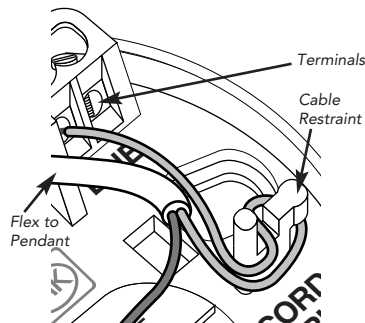

Figure 4 Cable Restraints
18. Wrap the two cables around the restraints as shown in Figure 4. It is very important this is done correctly so as to support the lamp fitting.